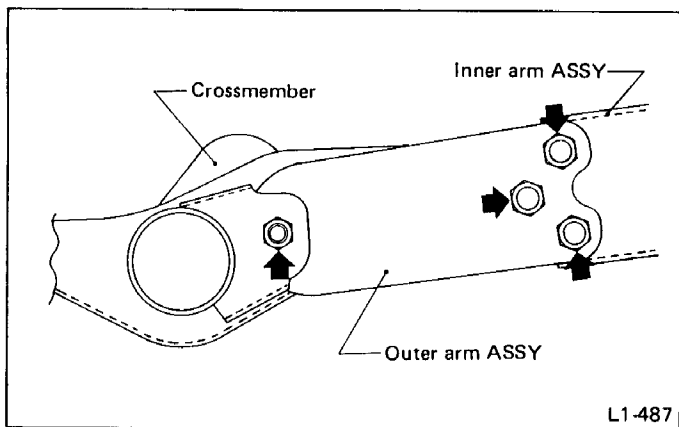
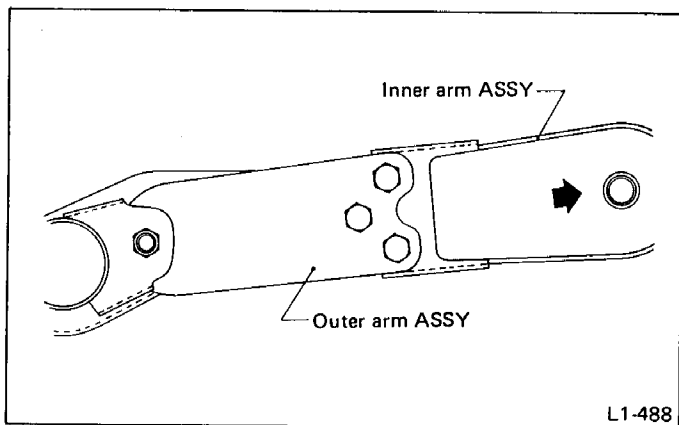

Fig. 25
Fig. 26
- 3) When toe-in is excessive, tighten outer arm mounting bolts shown in Fig. 25 while pushing end of spindle towards rear of vehicle (in direction of arrow in Fig. 26). When toe-out is excessive, tighten outer arm mounting bolts while pulling end of spindle toward front of vehicle (in opposite direction of arrow in Fig. 26).
- 3) Then, loosen outer arm mounting bolts shown in Fig. 25.